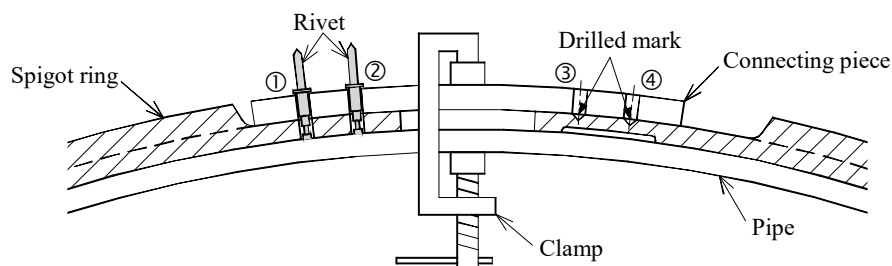

Figure-42 Assembly of spigot ring
- (4) Confirm by hand that the spigot ring does not move laterally and circumferentially. If the spigot ring moves, re-install it again. Also, confirm that there a 0.02"-thick gauge cannot go under the spigot ring.
- (5) Attach the connecting piece on the spigot ring by inserting the rivets into the holes of spigot ring and connecting piece (①, ② of Figure-42). Fix the spigot ring and the connecting piece with a clamp. Mark the riveting positions on the spigot ring by drilling shallow holes with drilling machine through the holes of the connecting piece (③, ④ of Figure-42). Use 0.130" (3.3 mm) or 0.134" (3.4 mm) diameter drill for 20" and 24" pipe, and 0.161" (4.1 mm) or 0.165" (4.2 mm) diameter drill for 28" to 40" pipe.
- (6) Remove the clamp and then take out the spigot ring from the groove of the spigot.
Drill two penetrated holes on the spigot ring at the drilled mark (③ and ④ of Figure-42).
- (7) Confirm that there are no foreign materials such as sand in the groove of the spigot and on the spigot ring.